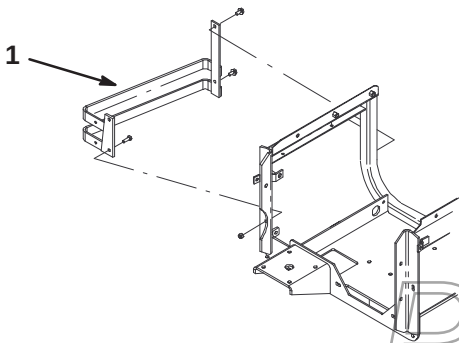

Figure 1
1. Remove bumper from the machine (Fig. 1).
7. Install bumper (Fig. 1).